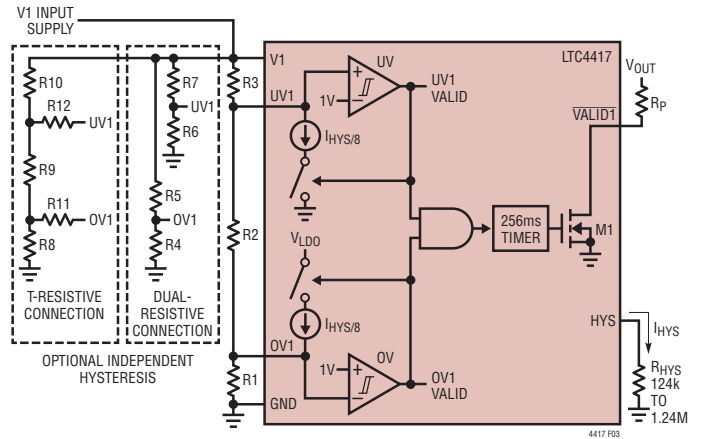

Figure 3. LTC4417 External Hysteresis
Hysteresis for the OV and UV comparators are set via the HYS pin. Two options are available. Connecting a resistor, R_{HYS} , between HYS and GND, as shown in Figure 3, sets the hysteresis current $I_{OV_UV(HYS)}$ that is sunk into UV1, UV2 and UV3 and sourced out of OV1, OV2 and OV3. The value of R_{HYS} is calculated with Equation (1). Choose R_{HYS} to limit the hysteresis current to between 50nA and 500nA.
Independent OV and UV hysteresis values are available by separating the single string resistive dividers R1, R2 and R3, shown in Figure 3, into two resistive strings, R4-R5 and R6-R7. In such a configuration, the top resistor defines the amount of hysteresis and the bottom resistor defines the threshold. Use Equations (2) and (3) to calculate the values.
When large independent hysteresis voltages are required, a resistive T structure can be used to define hysteresis values, also shown in Figure 3. After the desired OV and UV thresholds are set with resistors R8 through R10, R11 and R12 are calculated using: